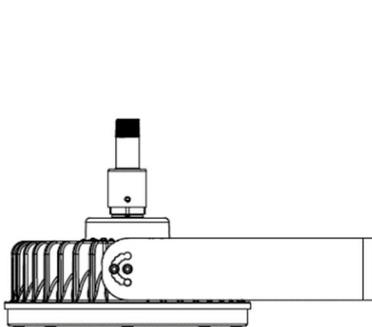

Figure 1
- ☞ Position the bracket holders and fix it by means of the provided M8 screws, 61.0 kgf-cm. (Figures 1 and 2)